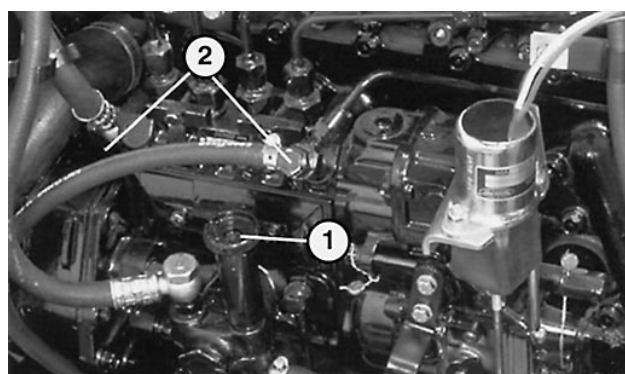

Figure 25
4. Rotate the priming pump (Fig. 25) counter-clockwise until the spring in the pump assembly releases. Operate the pump up and down until a solid stream of fuel flows out around the filter plug and tighten the plug.
5. Loosen the air vent plug on the injection pump about 1-1/2 turns (Fig. 25). Operate the priming pump until a solid stream of fuel flows from the vent hole (Fig. 25), then tighten the air vent plug.